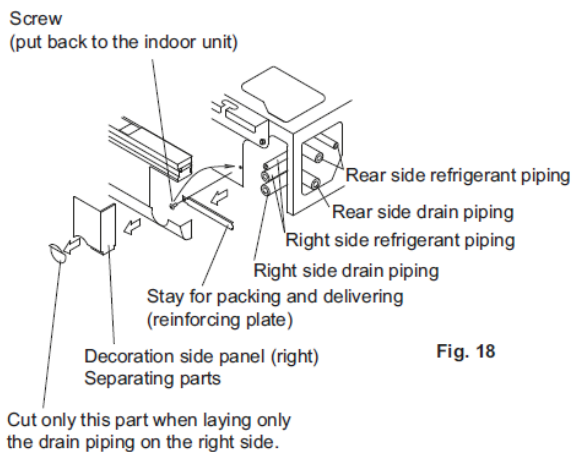
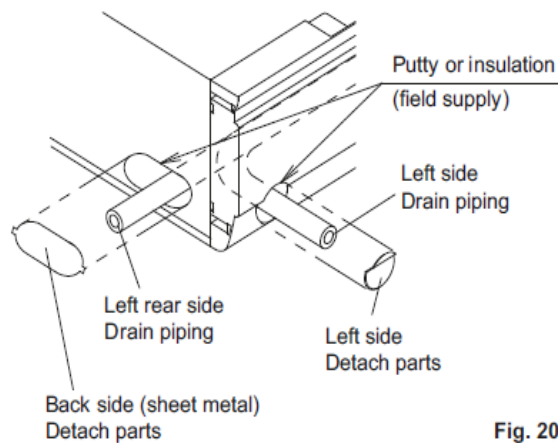

Fig. 18
Fig. 20
- Drain piping can be connected from the following directions: For right rear/right side, refer to Fig. 18, and for left rear/left side, refer to Fig. 20